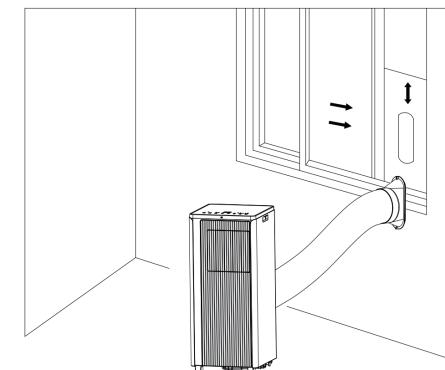
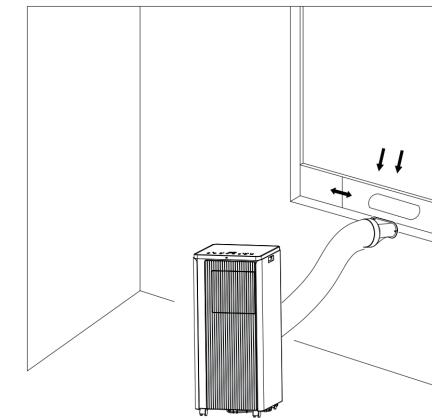

Figure 5
Figure 6
2)Elongate the exhaust pipe and snap the flat end of the exhaust pipe joints into the hole of the window sealing plate assembly (as shown in Fig.5 and Fig.6) .